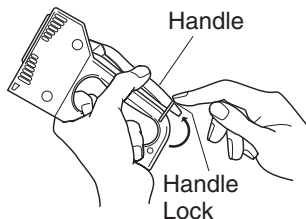

Figure 3
3. While holding handle down, slip handle lock over handle (see Figure 3).